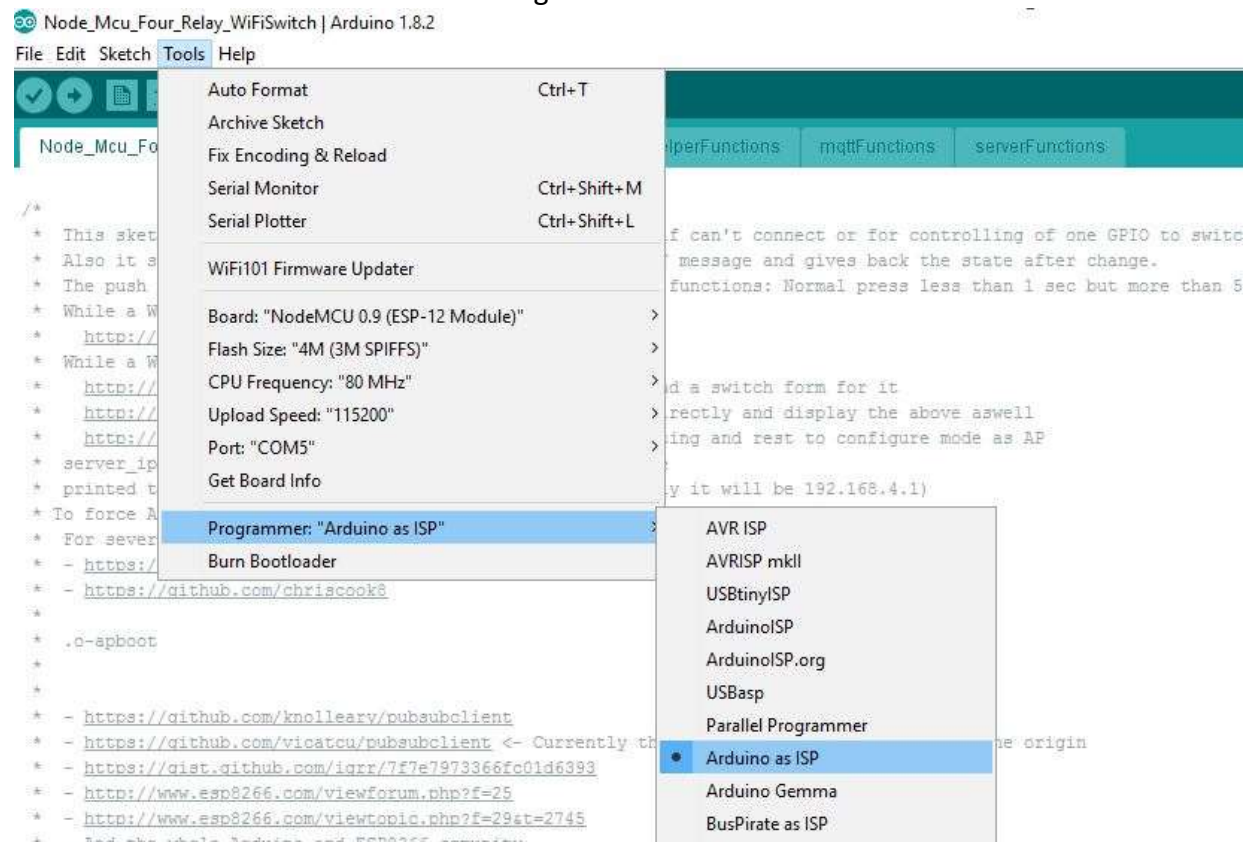

Figure 22: IDE Selection
- Click on tools tab, move mouse pointer to “Programmer: “Arduino as ISP””, under this click on “Arduino as ISP” to select. Refer to figure 22.